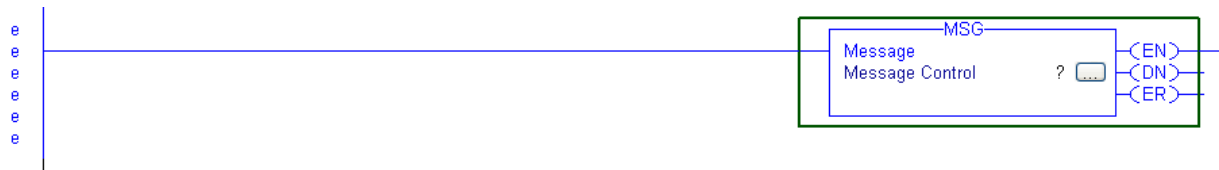

Figure 23 – Ladder Diagram Get
1. Add Message Instruction to RSLogix5000™ ladder Diagram. Please see figure 23.